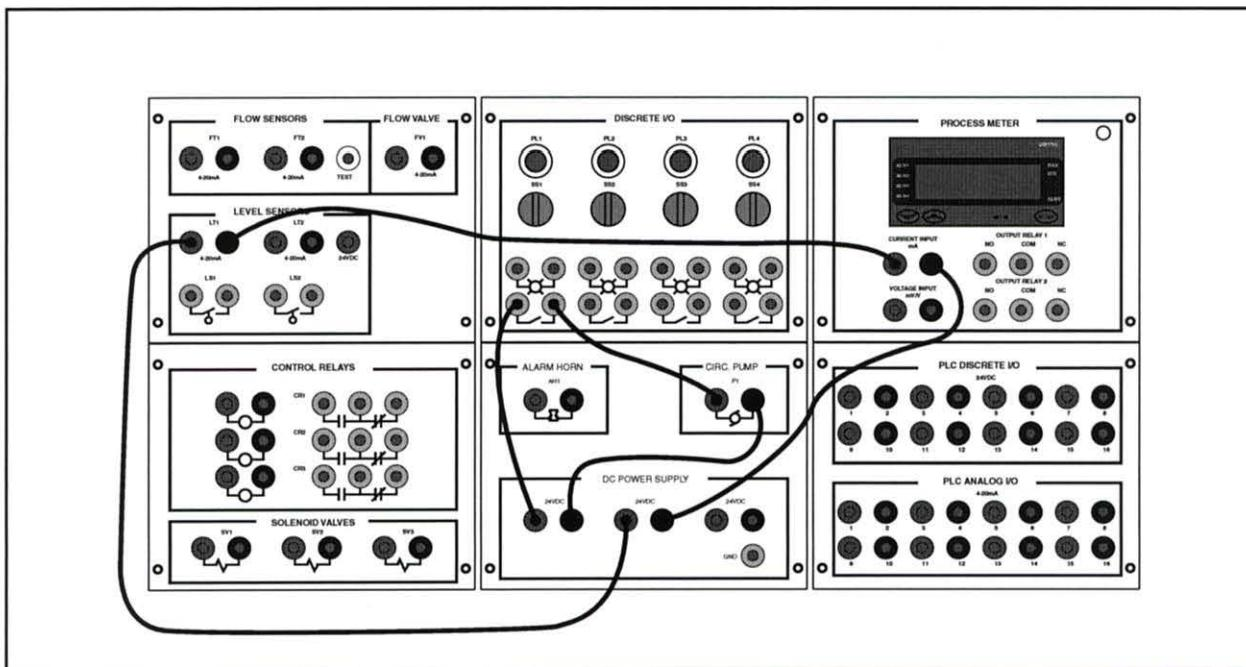

Figure 58. Circuit to Measure Level Using the Process Meter
- A. Connect the circuit shown in figure 58.